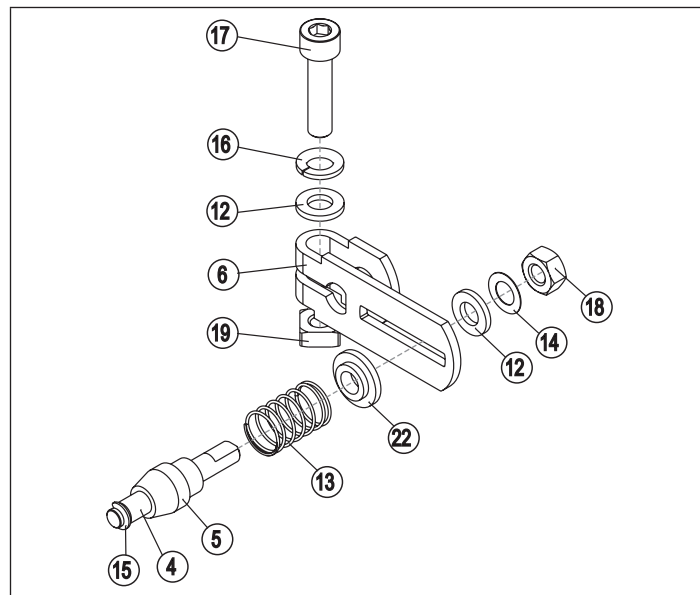

Fig. 8: Assembling the lever
- Assemble lever (if not pre-assembled) (see “Fig. 8”).